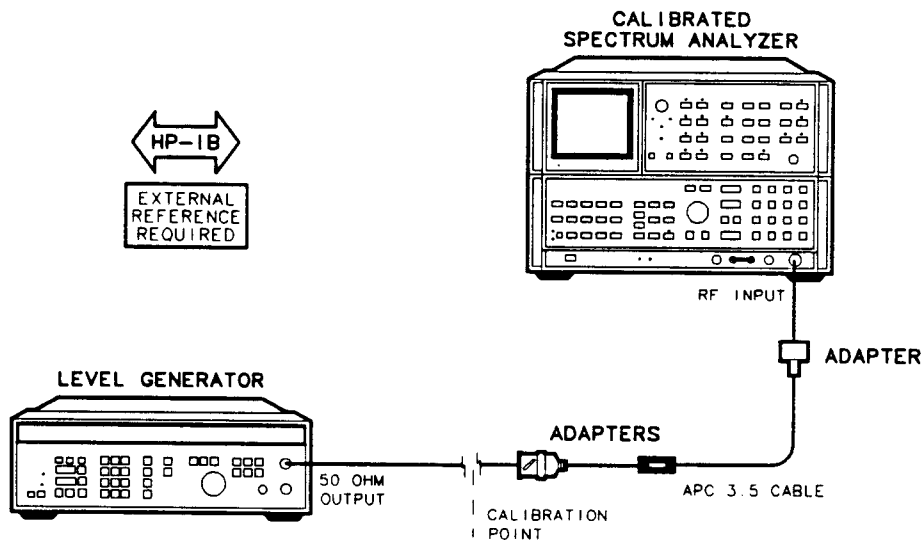

Figure 3-6. Cal IF Test Setup
**Cal IF.** Refer to Figure 3-6. The level generator (at 20 MHz) helps to characterize the step gain, resolution bandwidth filter-switching amplitude error, resolution bandwidth frequency error, resolution bandwidth filter errors, and log fidelity errors. All measurements normalize to the 10 kHz resolution bandwidth setting.